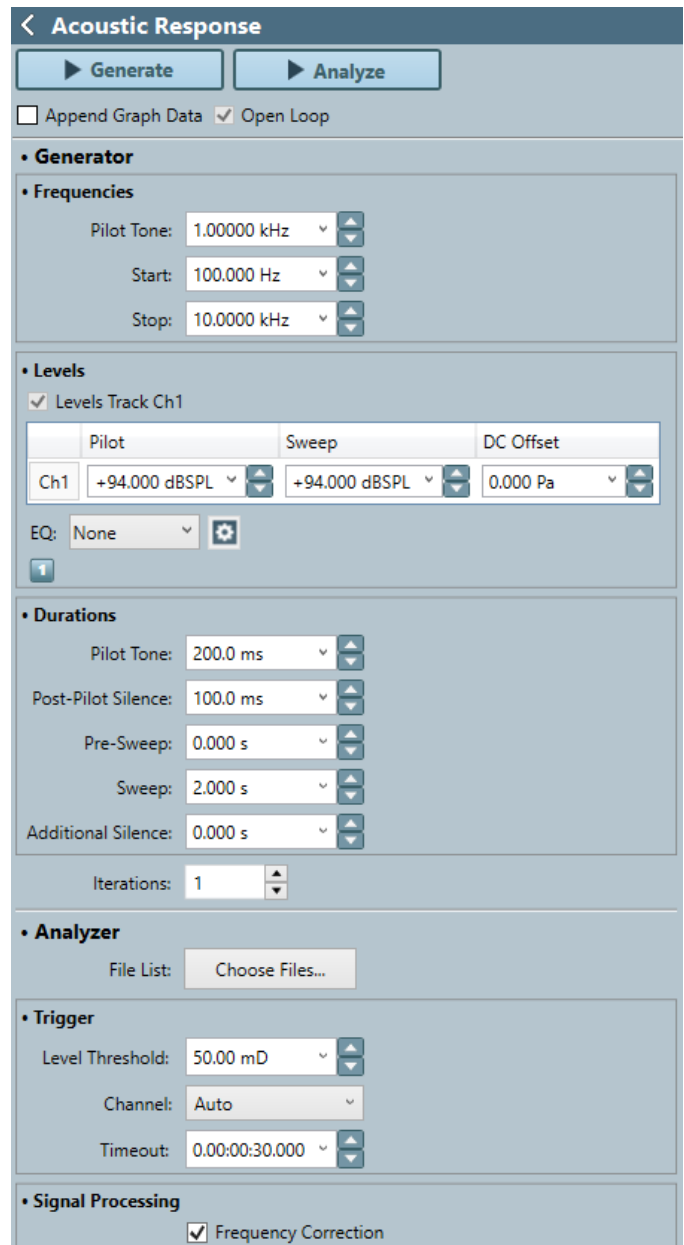

Figure 6. Example configuration of an open-loop Acoustic Response measurement.
10. In the new Signal Path, configure the Acoustic Response measurement for an open-loop microphone test (e.g., as shown in Figure 6).